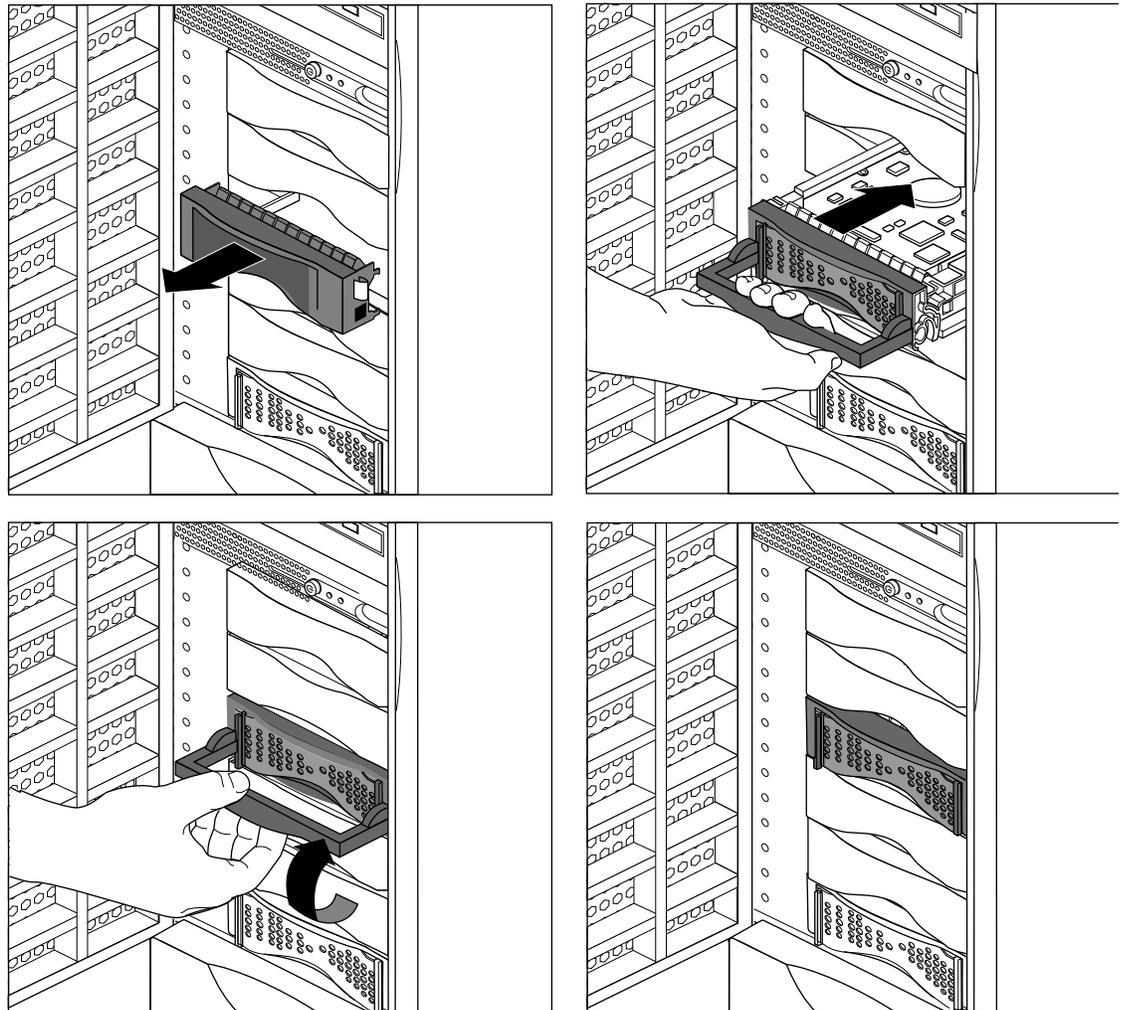

Figure 7-16 Installing a 3.5-inch Peripheral in Origin200
- If there is a plastic blanking plate covering the slot, remove it as shown in Figure 7-16.
- Fold the locking lever up to latch the drive in place, as shown in Figure 7-16.